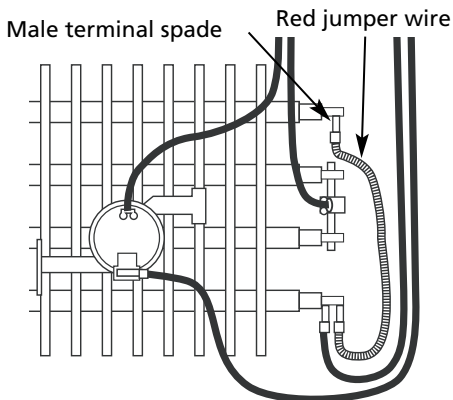

Figure 6 – Converting Heaters To Half Wattage
1. Remove the red jumper wire as shown in Figure 6, page 4 and discard.
- Remove the red jumper wire as shown in Figure 6, page 4 and discard.
1. Remove the red jumper wire as shown in Figure 6 and discard.